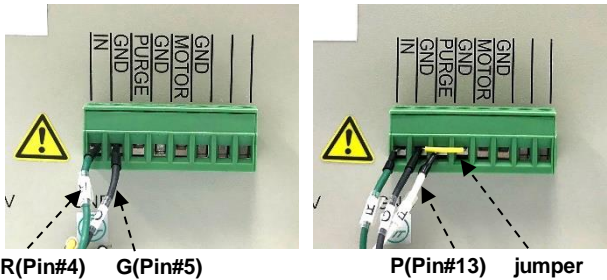

Figure 4-2 Connect to remote terminal: RDE (left), RDE&PURGE (right)
- Please refer to Figure 4-2 and Table 4-1.